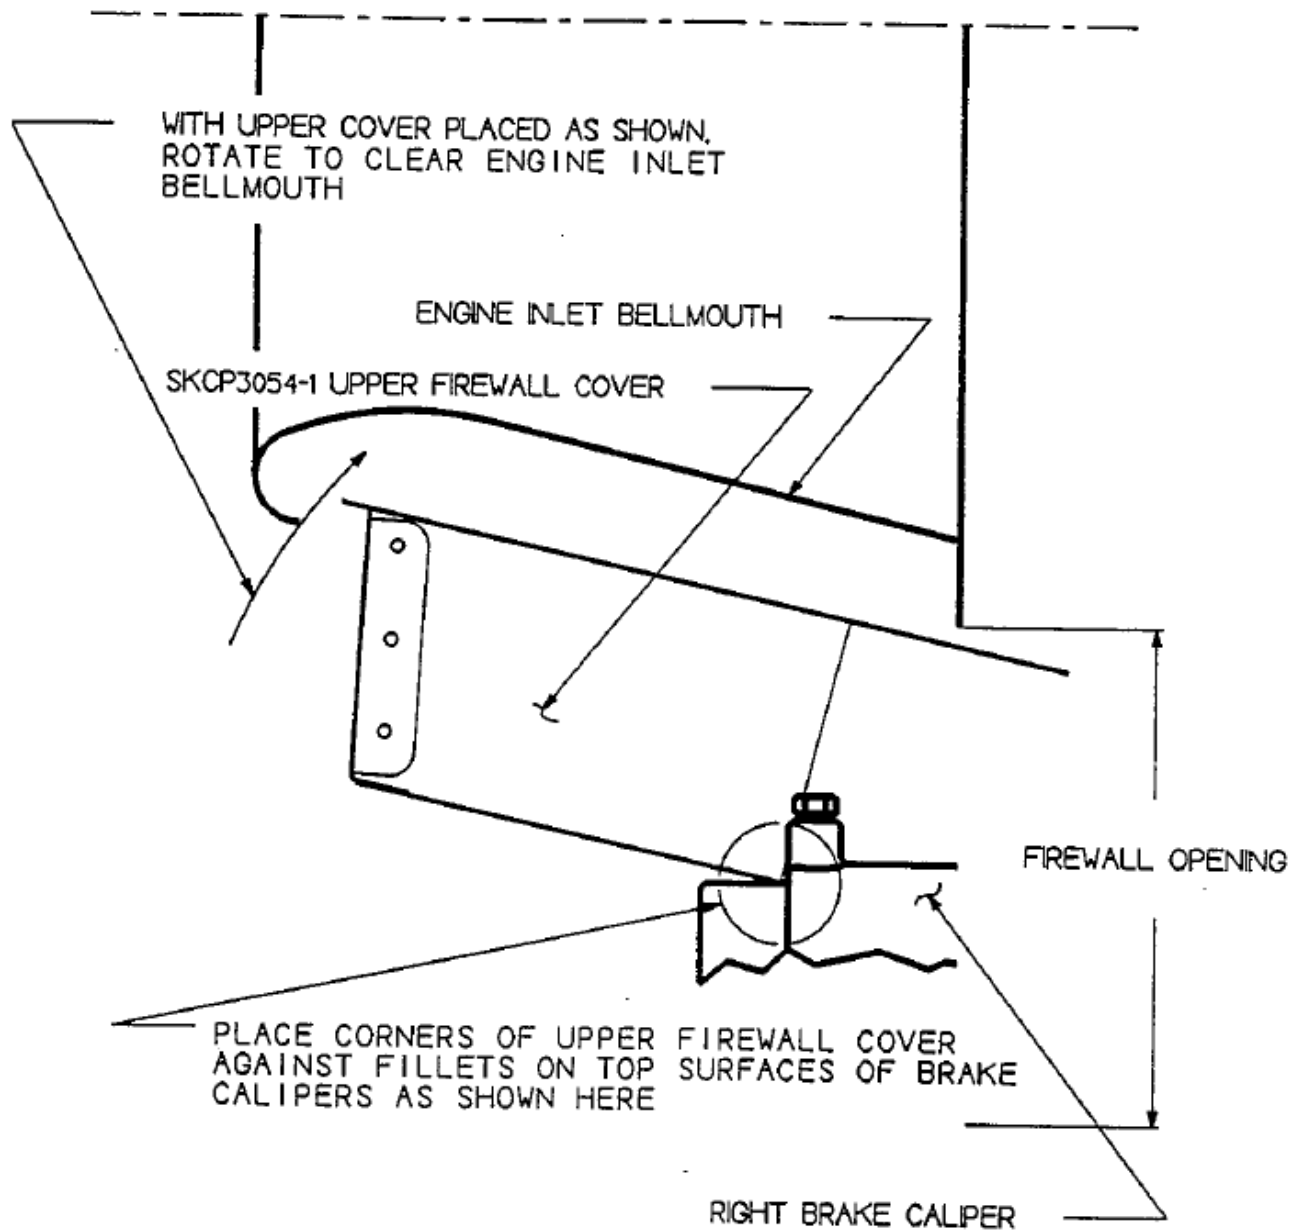

FIGURE 3: Location of Upper Firewall for ease of installation with Rotor Brake
- f. Install the SKCP3054-5 upper firewall cover as shown on the Installation Drawing SKCP3052 and Figure 1. The upper cover assembly is most easily installed by positioning it as shown in Figure 3 if the aircraft is equipped with a rotor brake. If no rotor brake is installed, a special technique is not necessary for installation.
- e. Install the SKCP3054 Top Access Panel Assembly per Figure 1 and SKCP3053. The upper cover assembly is most easily installed by positioning it as shown in Figure 3. Verify that the AN3-3A bolts on the sides of the Top Access Panel do not contact the brake hoses.